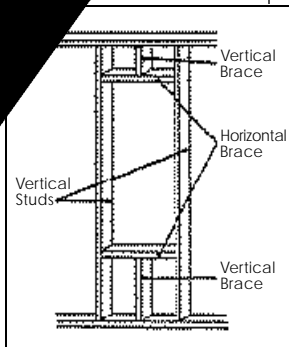

Figure 1
- Refer to rough opening dimensions and install: (figure 1)